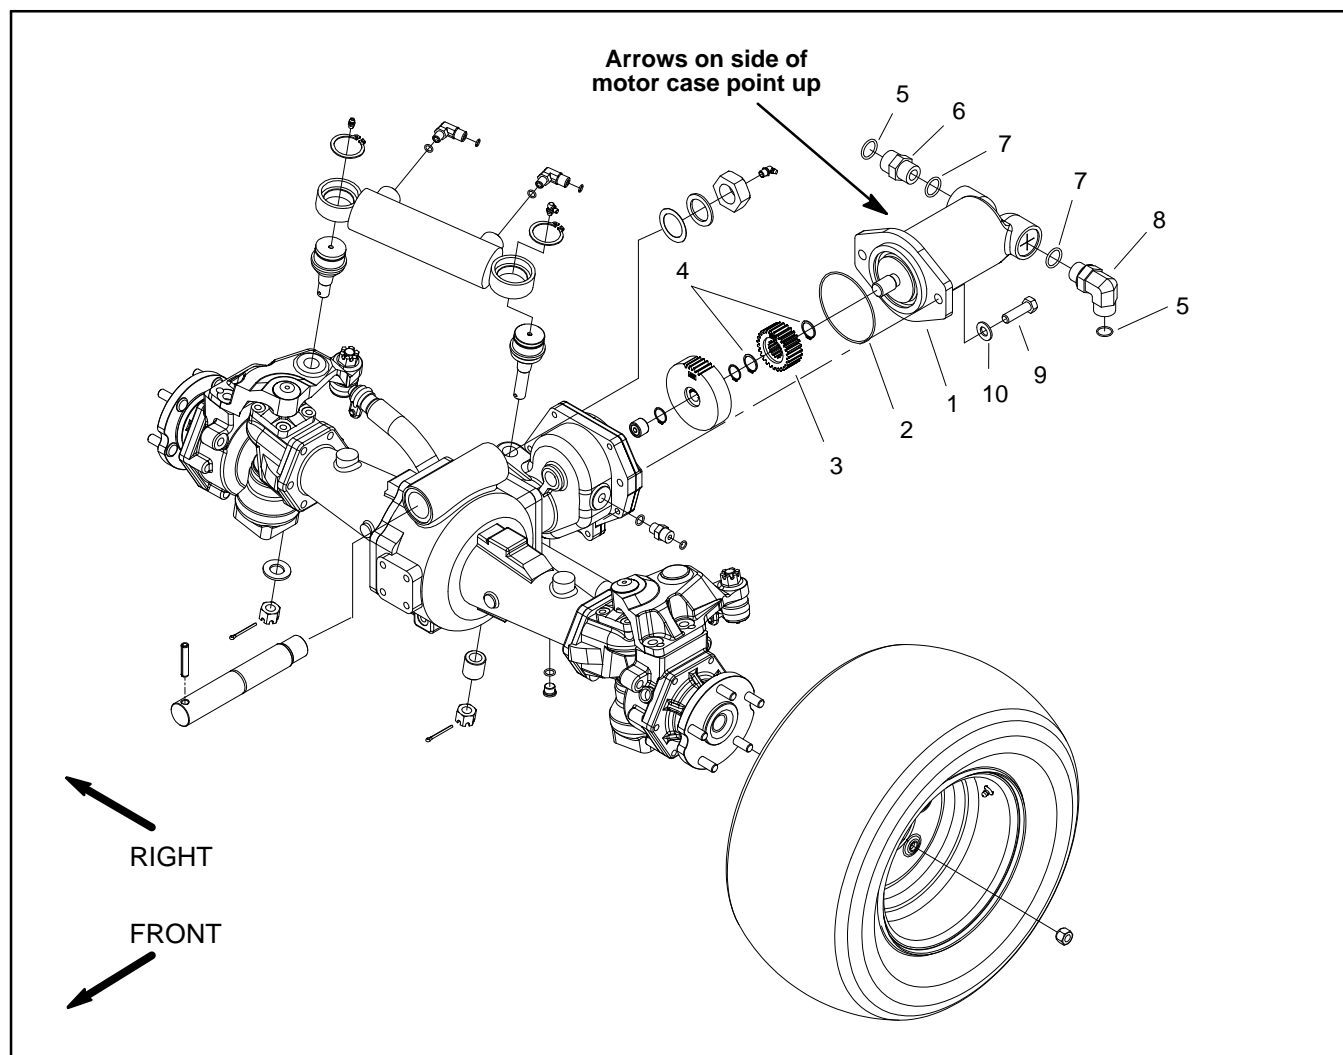

Figure 64
Removal (Fig. 64)
5. Remove motor using Figure 64 as a guide.
Installation (Fig. 64)